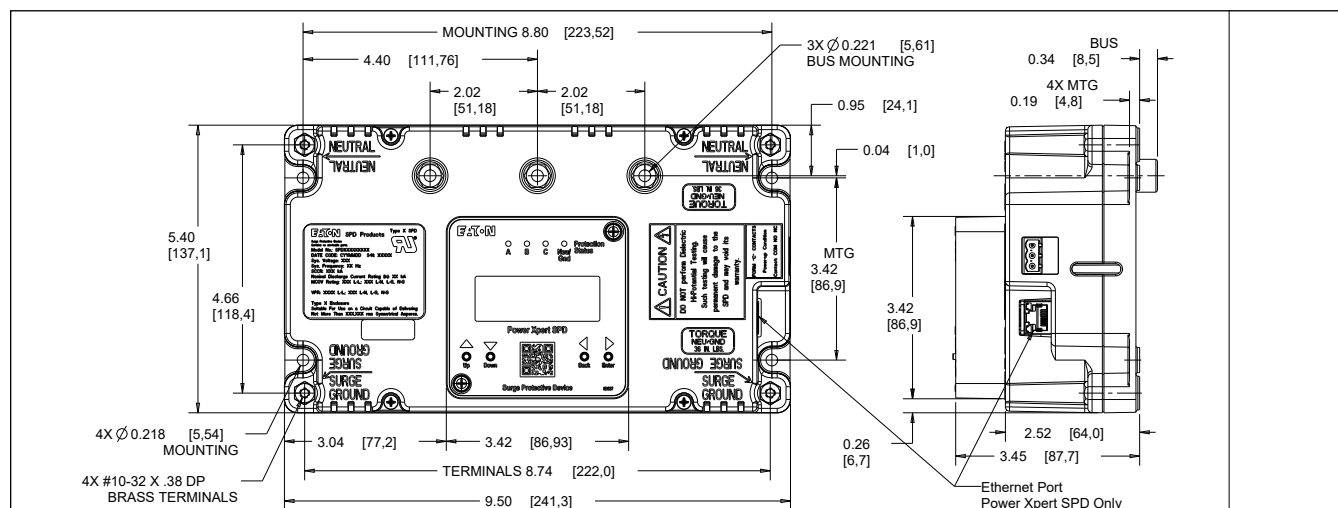
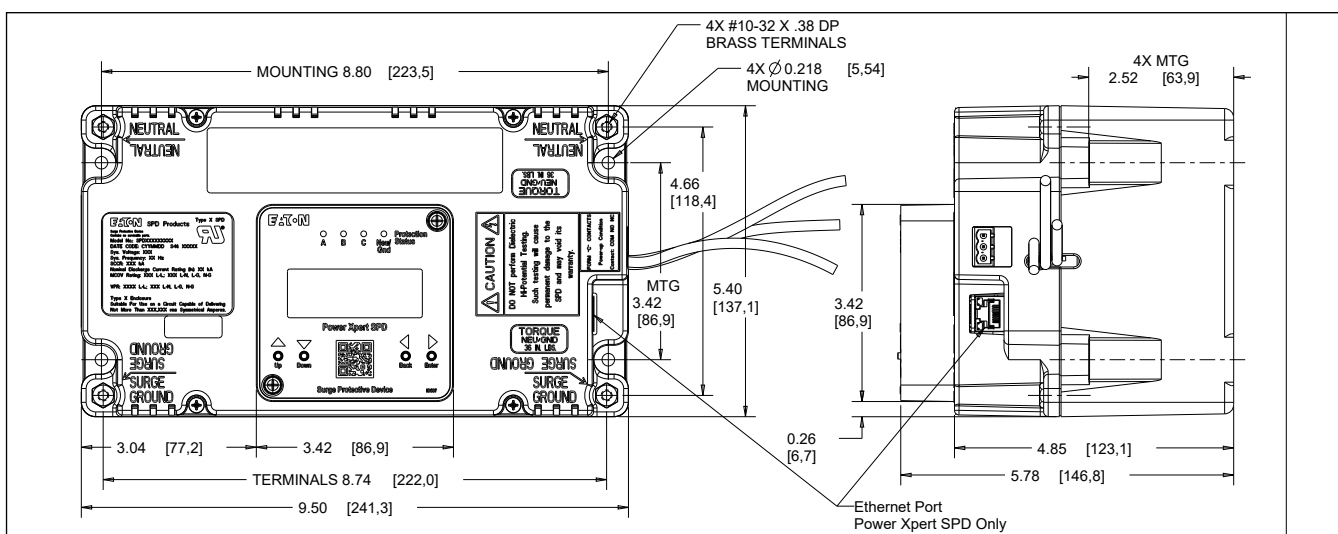

Figure 3. Dimensions for 50–200 kA units
Figure 4. Dimensions for 250–400 kA units
- Mount the SPD to the support brackets (customer supplied) using #10 fasteners and tighten to 4.1 N⋅m (36 in-lb). See Figures 3 and 4 for mounting details.
3. Mount the SPD to the support brackets (customer supplied) using #10 x 2-3/4" fasteners and tighten to 4.1 N·m (36 in-lb). For 50–200 kA models, see Figure 3 for mounting dimensions. For 250–400 kA models, see Figure 4 for mounting dimensions.
1. Ensure that the dead-front or door has the appropriate cut-out to accommodate the SPD display. See Figure 3 or Figure 4.
1. Ensure that the MCC bucket door has the appropriate cut-out to accommodate the SPD display. See Figure 3 or Figure 4.